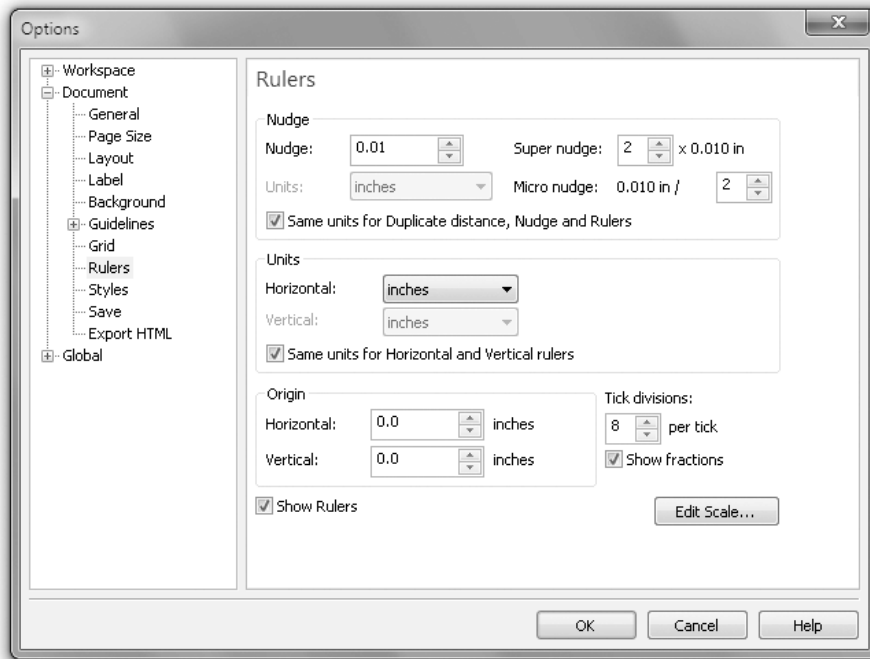

FIGURE 7-4 The Rulers area of Options is where you can set units, the independent display of units on rulers, nudge distance, and more.
Options for measuring in CorelDRAW can be found in Tools | Options | Document | Rulers; but the faster route is to double-click a page ruler, or to right-click a ruler and then choose Ruler Setup from the pop-up menu. In the Rulers area of the Options box, you'll find options in addition to the increments displayed on rulers. See Figure 7-4.
- **Units** Units are measurement values. Choose a Horizontal unit measure to specify unit measures for all drawing units in your document. To specify different units of measure for vertical ruler and drawing units, click to deselect the Same Units For Horizontal And Vertical Rulers option, shown in Figure 7-4.